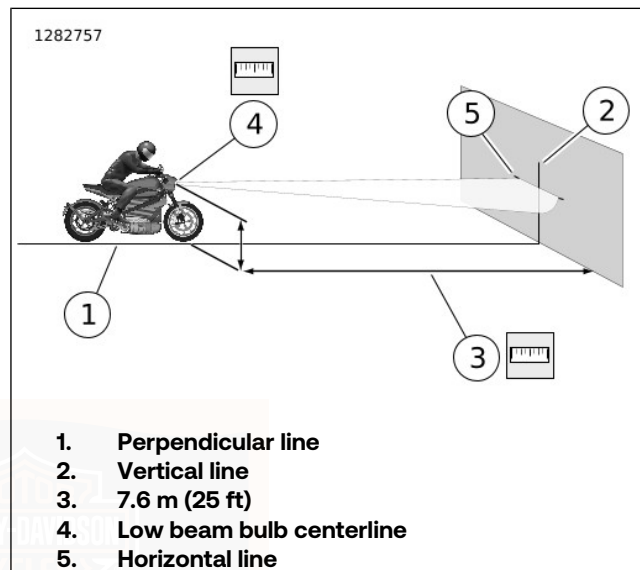

Figure 64. LED Headlamp Alignment
1. See Figure 64. Park the motorcycle in a line (1) perpendicular to the wall.
3. Draw a vertical centerline (2) on the wall aligned with line (1).
4. With the motorcycle loaded, point the front wheel straight forward at wall. Measure the distance (4) from the floor to the center of headlamp.
5. Draw a horizontal line (5) through vertical line (2) using the same height measurement as low beam bulb centerline (4).
6. Align the top of the hot spot to horizontal line (5) with headlamp set to low beam.